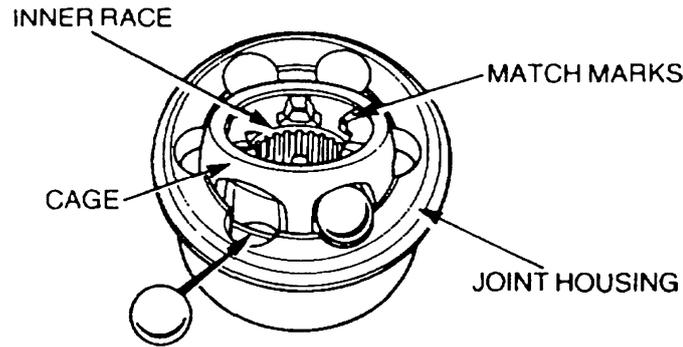

Figure 119 Constant Velocity Joint Steel Ball Removal
- e. To remove the steel balls, tilt and swivel the cage then the inner race (Figure 119).
- f. Tilt and swivel the cage to allow the steel balls to be inserted (Figure 119).